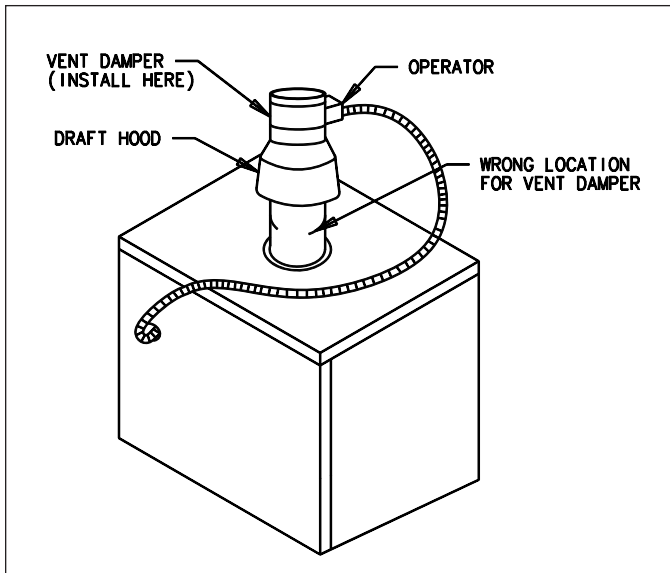

Figure 1. Vertical installation of vent damper on Galaxy II Boilers
3. Select a proper, convenient location for vent damper. Vent damper may be installed vertical or horizontal on all models (see figures 1 and 2).
- B. 1. This device must be installed after the boiler draft hood (between the draft hood outlet and the connector to the outdoor chimney or vent) as close to the draft hood as practicable, and without modification of the draft hood or the vent damper. (See figure 1 and 2.)